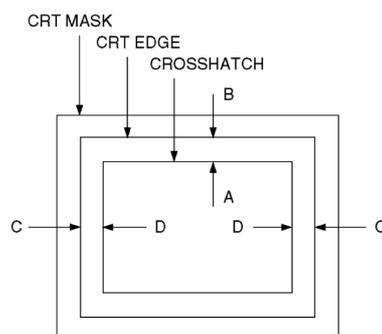

Fig. 10.
1. Adjust V-AMP (VGA 400) so that $A = B$ in Fig. 10.